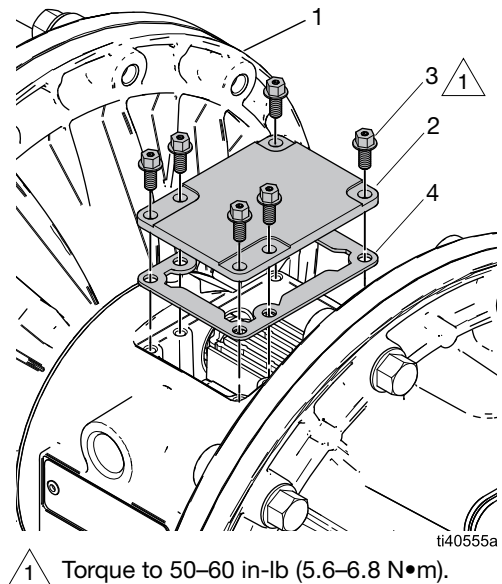

FIG. 10: Air Valve Access
Service the air valve as follows. See FIG. 10–FIG. 13.
13. Align the valve gasket (4) and cover (2) with the center housing (1) holes.
14. Insert screws (3). Torque to 50–60 in-lb (5.6–6.8 N•m). See FIG. 10.